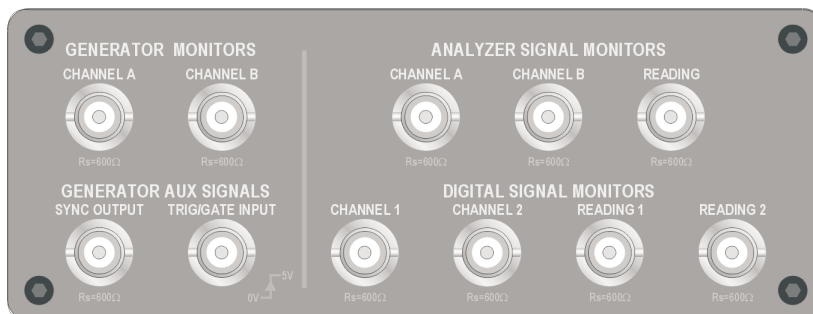

Figure 2-34. Monitors panel
2.9.1.1 Generator Signal Monitors *(all units except SYS-2500. See Figure 2-34)*
2.9.1.2 Generator Auxiliary Signals *(all units except SYS-2500. See Figure 2-34)*
2.9.1.3 Analyzer Signal Monitors *(all units except SYS-2500. See Figure 2-34)*
2.9.1.4 Digital Signal Monitors *(SYS-2422 & SYS-2522 only. See Figure 2-34)*